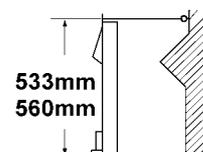

Figure 4
- Mark the position for the eyebolt at the back of the fireplace opening equal to the centre line of the heater and at a height of 533 – 560mm. Drill, plug and screw in the eyebolt – See figure 4.